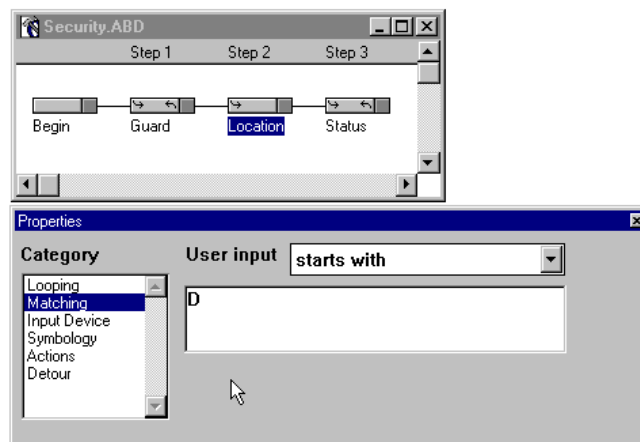

Figure 3-36 Matching Property - Starts With D
32. Click in the edit box and enter a **D** (Figure 3-36). Any entry that starts with a **D** is now an acceptable entry for the “Location” Handler.